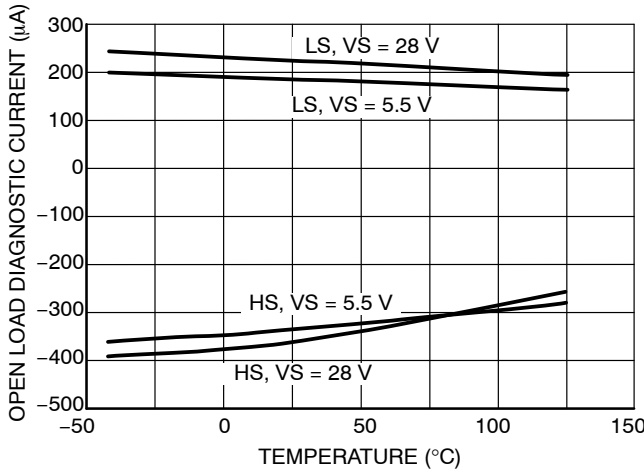

Figure 18. Open Load Detect Current vs. Temperature
10. Refer to Figures 18 and 19 for open load diagnostic current behavior.